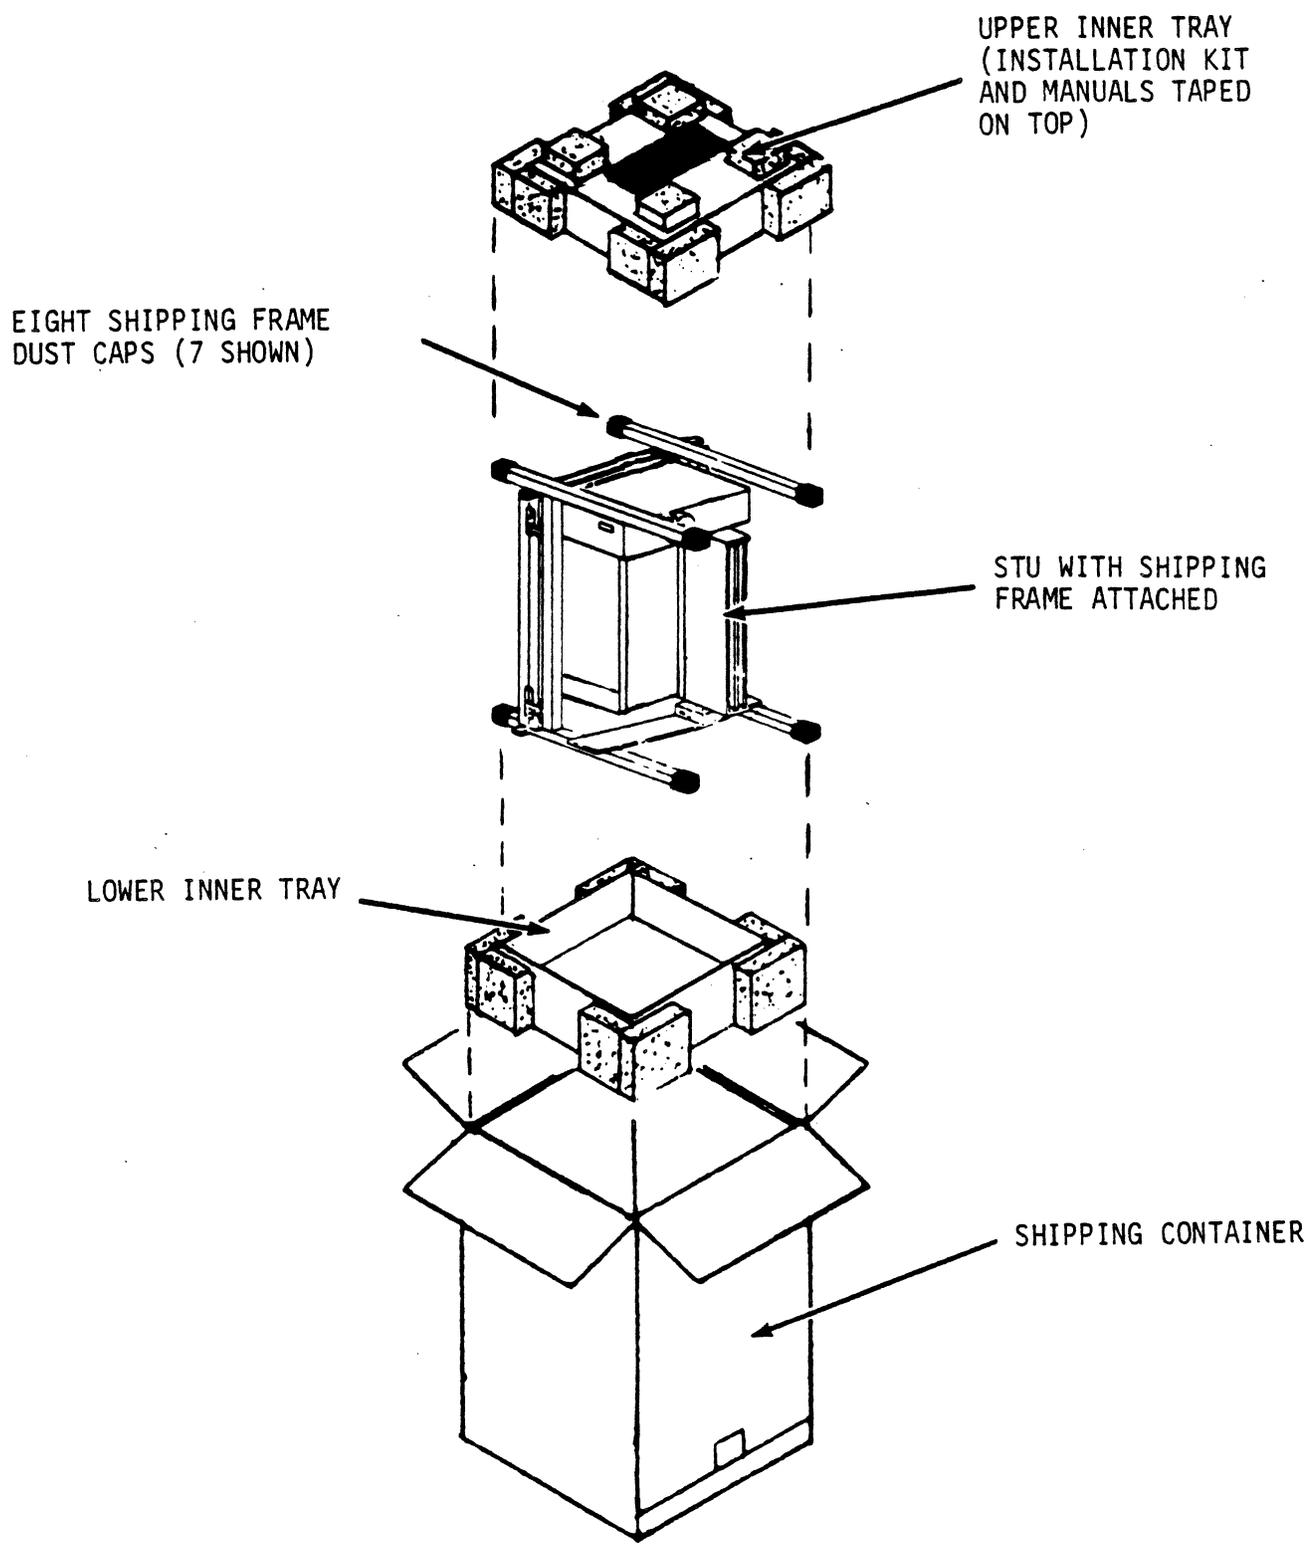

Figure 3-2. STU Packaging
Each STU is packed in a 500-pound tested, double-wall corrugated container, 23 inches by 24-1/2 inches by 31-1/2 inches high, with inner protective packaging as shown in figure 3-2. Unpack the STU in the area or room where it will be installed. Because of the weight of the packaged STU (approximately 132 pounds), unpacking requires two people. Perform the unpacking as follows:
2. Remove STU and all protective packaging as follows: (see figure 3-2)